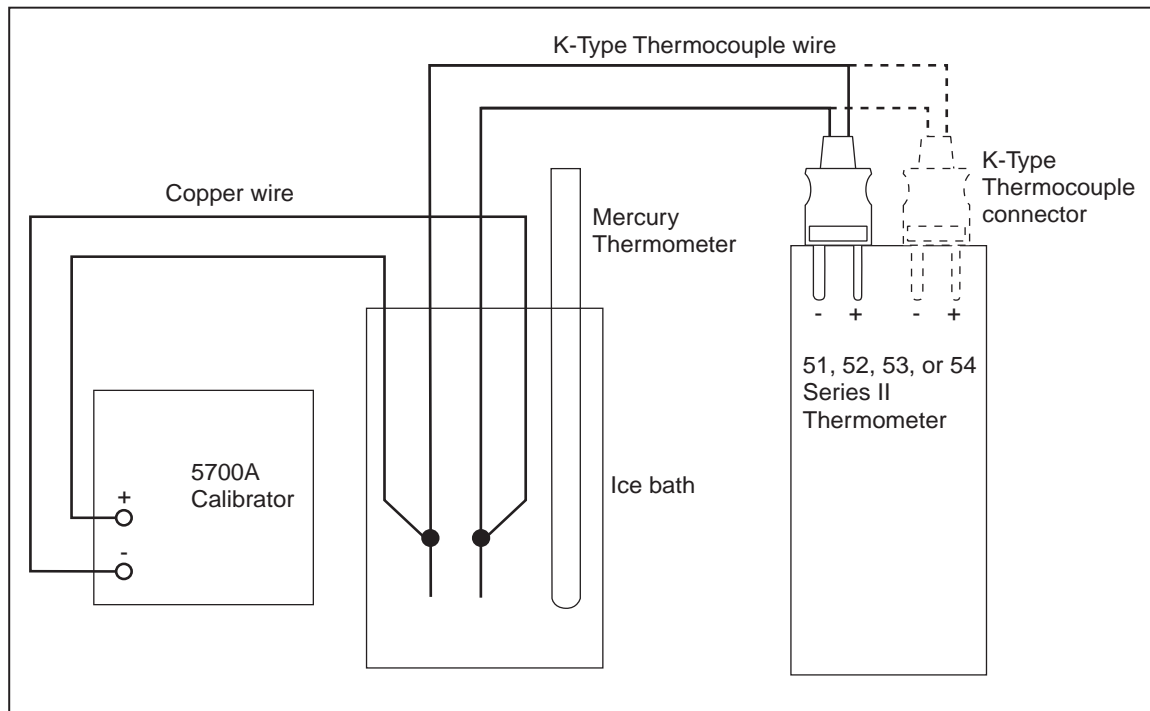

Figure 2. Ice Bath Test Equipment Connections
4. Replace the Dewar Flask cap or cork, and insert the thermocouple wires and Mercury thermometer as shown in Figure 2. Insert the Mercury thermometer to the same depth as the thermocouple wire.
2. Connect the equipment as shown in Figure 2. Allow the setup to thermally stabilize at least 5 minutes after inserting the thermocouple into the thermometer.
2. Reference junction calibration, using the ice bath test set up shown in Figure 2.
2. Referring to Figure 2, connect the equipment to T1 using K-type thermocouple wire and a K-type thermocouple connector. Allow the setup to thermally stabilize at least 5 minutes after inserting the thermocouple connector into the thermometer.